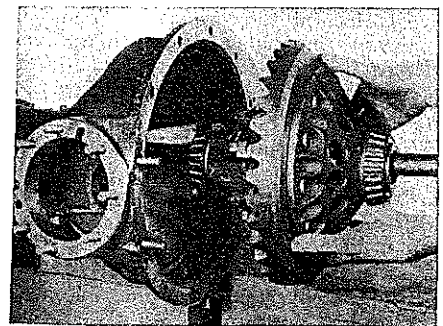

Fig. 177 Installing differential and gear into case
4. Position differential and gear over pipe, Fig. 177, with gear facing the case half and slide into position.